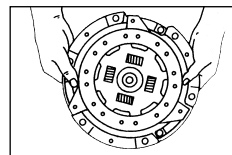

Fig. 4
5. Turn the assembled unit over, and centre/align the clutch plate onto the pressure plate. Tighten nut 'C' (Fig. 4).